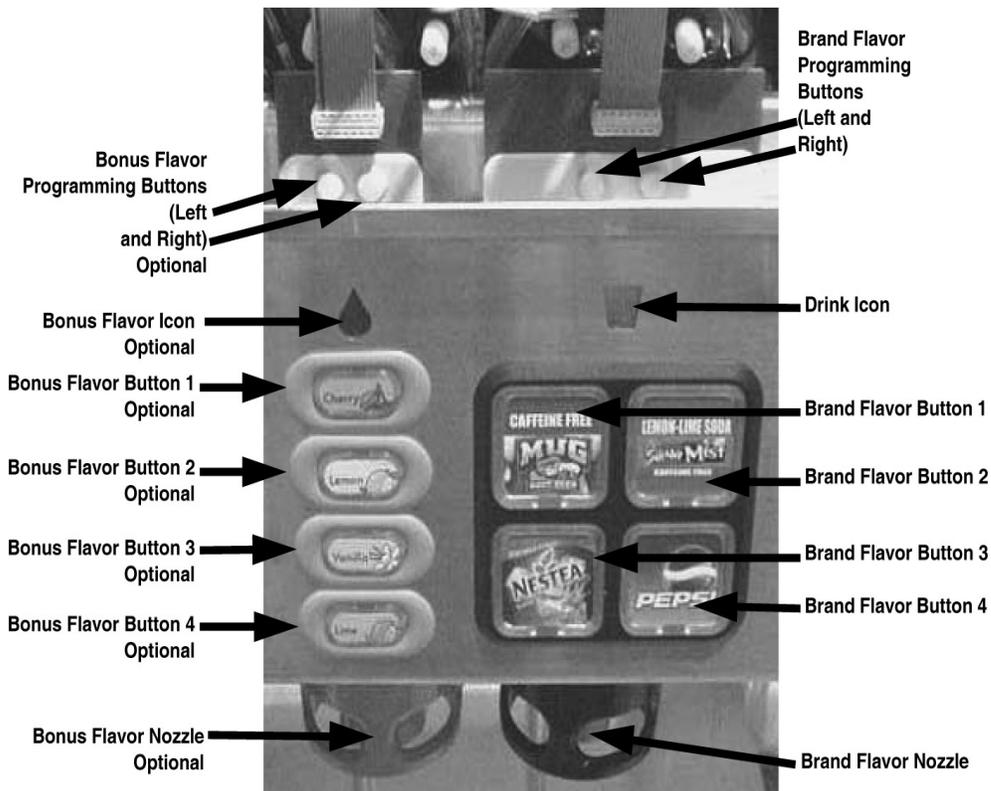
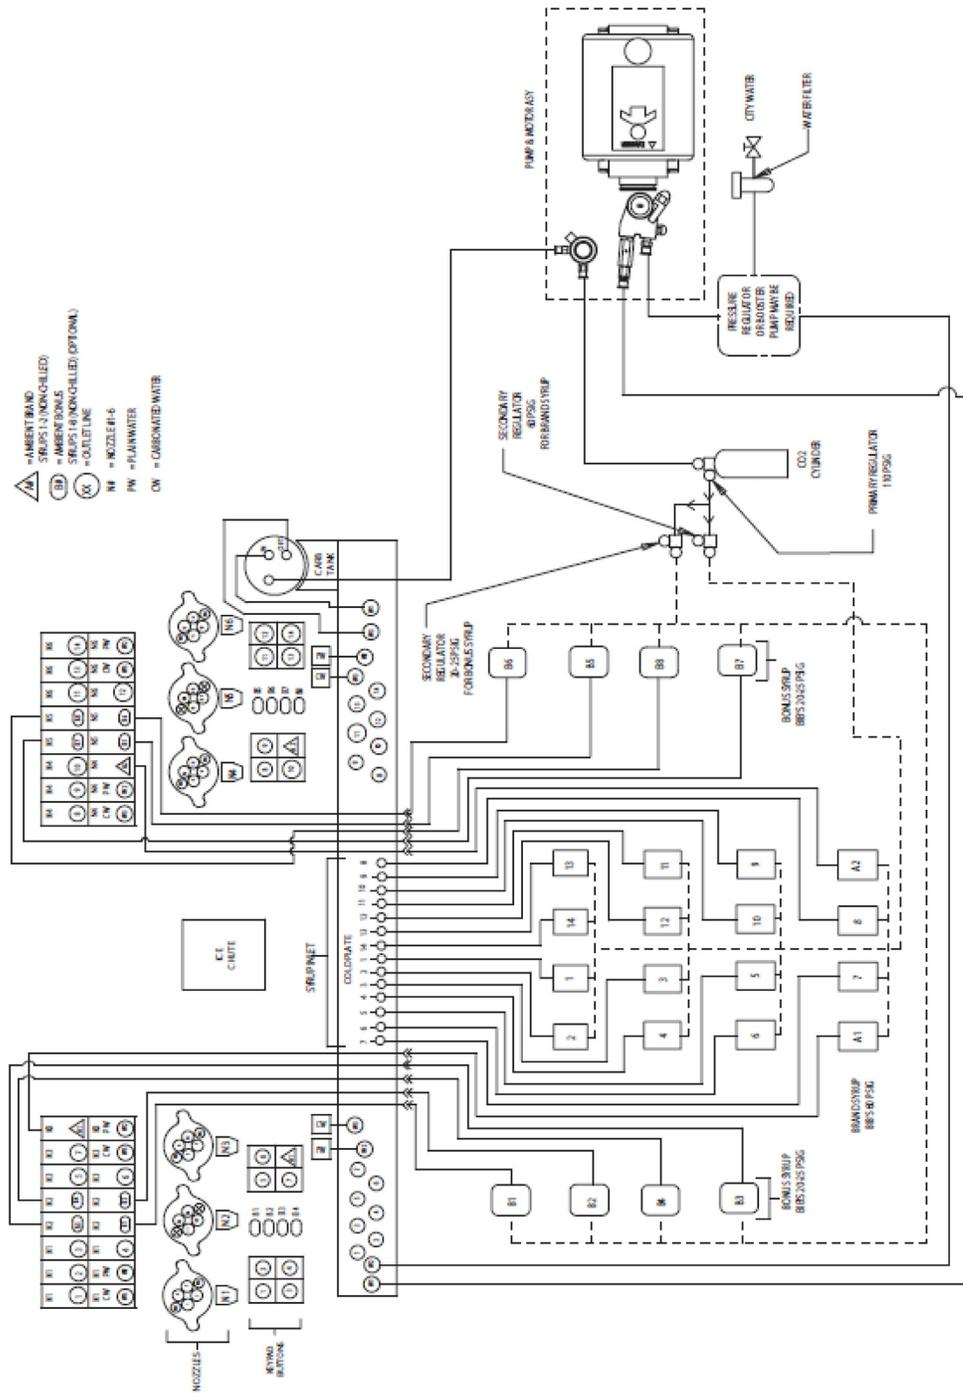

Figure 4.
Figure 8. Flow Diagram
5. Connect the beverage system product tubes as indicated in applicable Flow Diagram, Figure 4 or Figure 8. This work should be done by a qualified service person.
NOTE: See applicable Flow Diagram (see Figure 8) or Decal on the lower front of the unit for the location of syrup and water connections.